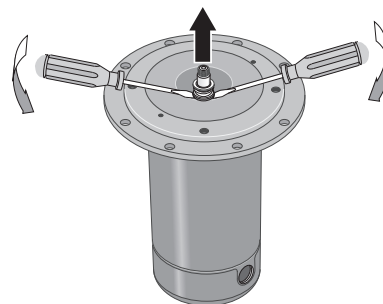

FIGURE 14 – REMOVE SEAL PLATE
3. Remove rotating half of seal by placing two screwdrivers under seal ring and carefully prying up (Figure 14).